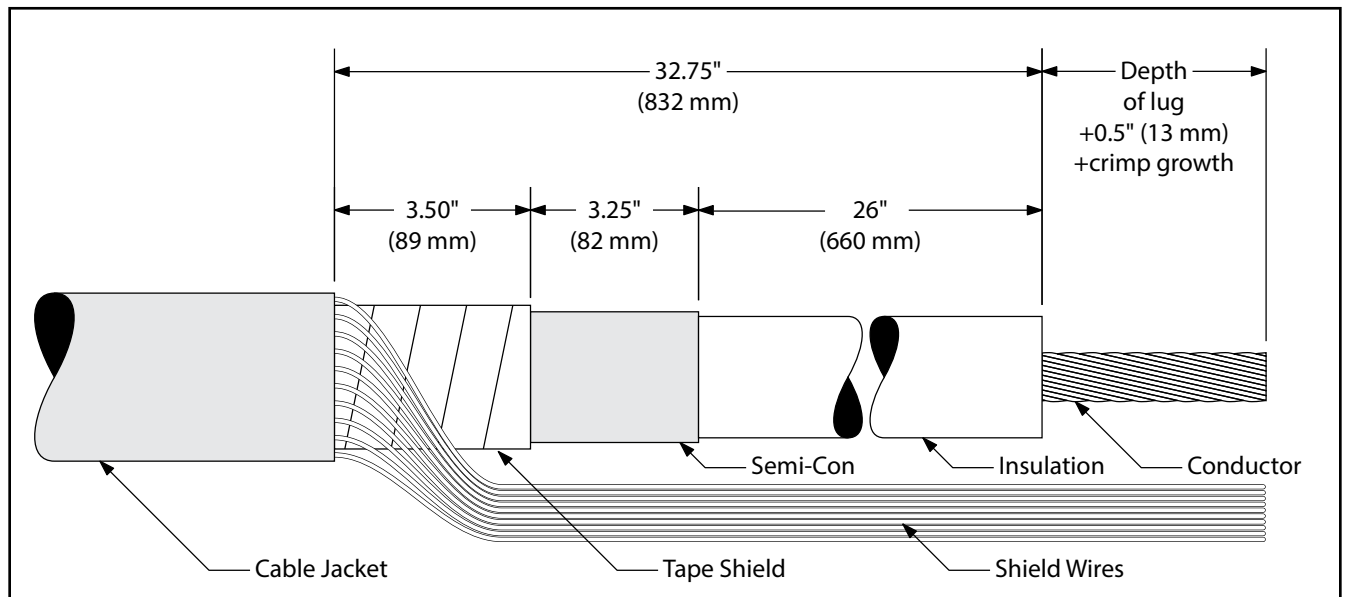

Figure 11
- 3.2 Prepare cable using dimensions shown in Figure 11. **BE SURE TO ALLOW FOR DEPTH OF TERMINAL LUG PLUS 0.5" (13 MM) PLUS CRIMP GROWTH.**